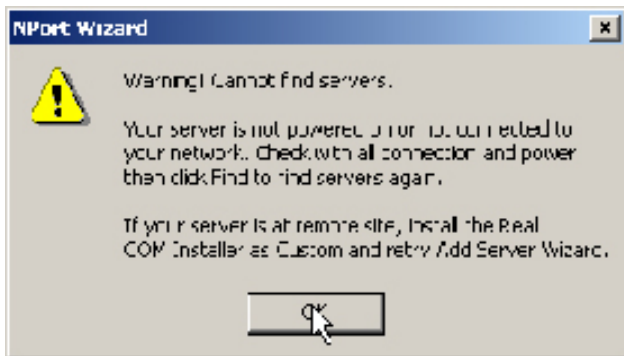

Figure 2-30
16. If a DigiPort is not found on the network, a warning window opens. **Figure 2-30.**